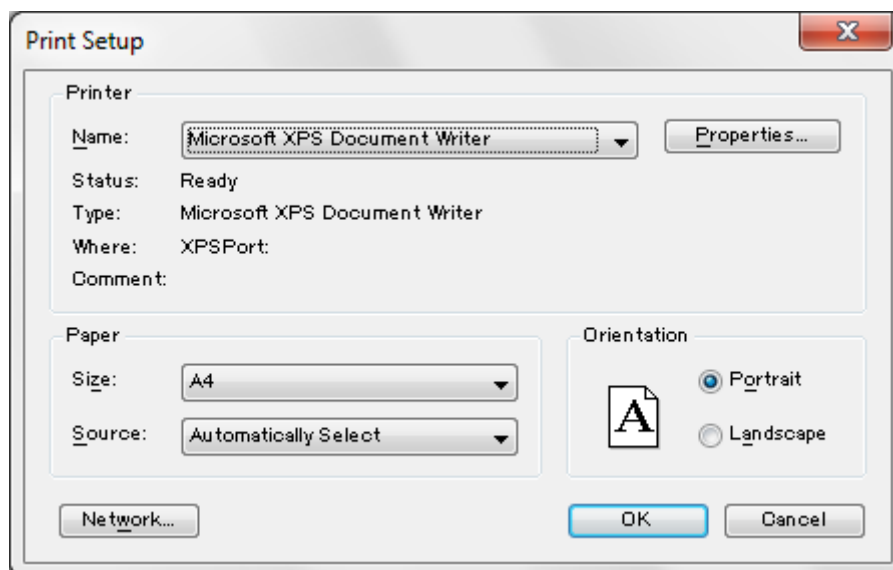

Figure 5.12 Example of [Print Setup] dialog box
- (1) Select [Print Setup...] from the [File] menu to display the dialog box in Fig. 5.12. The content of this dialog box varies depending on the connected printer. Configure the printer settings if necessary.